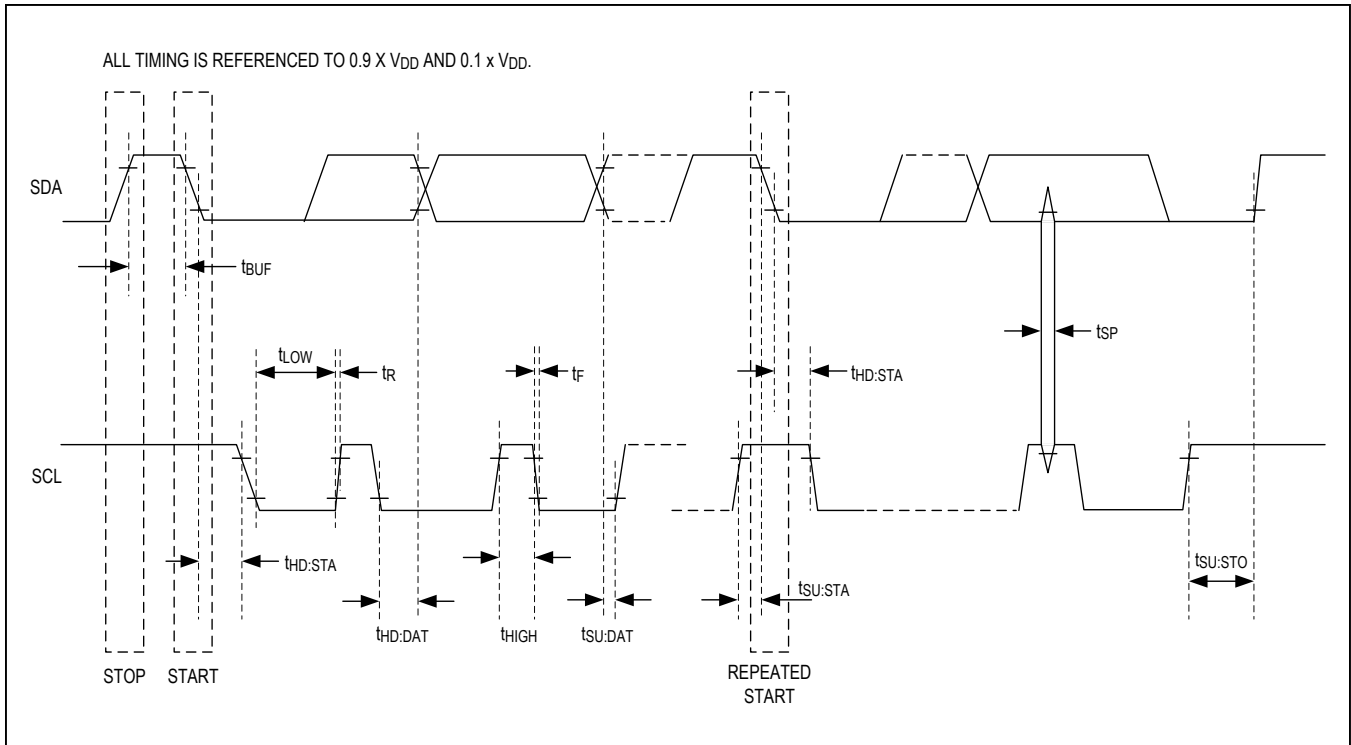

Figure 3. Timing Diagram
**Note 5:** See Timing Diagram in Figure 3. All timing is referenced to  $0.9 \times V_{DD}$  and  $0.1 \times V_{DD}$ .